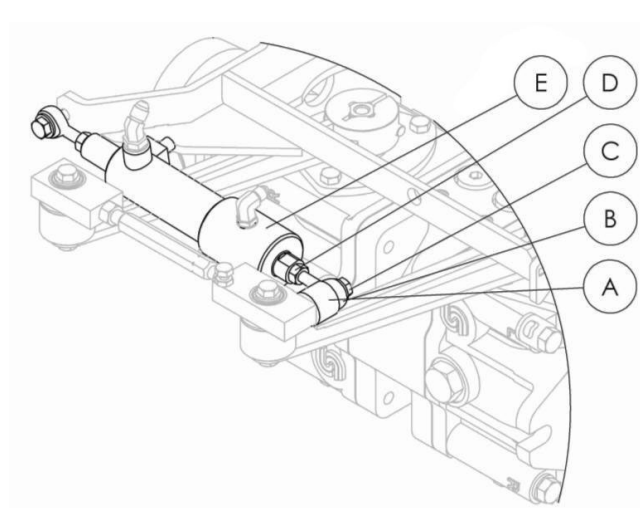

Figure 37. Zero Stroke Position Adjustment
4. Ensure blades are not rotating. If rotating, continue to next step and adjust per instructions. Otherwise, set trowel on ground and verify jam nut (Item D, Figure 37) is tight then continue to next section (Left Side Trowel Speed Adjustment).
6. Loosen jam nut (Item D, Figure 37).
7. Remove retaining screw (Item C, Figure 37). The spacer (Item A, Figure 37) will also come off.
8. Turn rod end (Item B, Figure 37) in, shortening overall length of cylinder assembly.
9. Reinstall retaining screw (Item C, Figure 37) and spacer (Item A, Figure 37). Apply blue loctite to make sure screw will not come off.
10. Tighten jam nut (Item D, Figure 37).